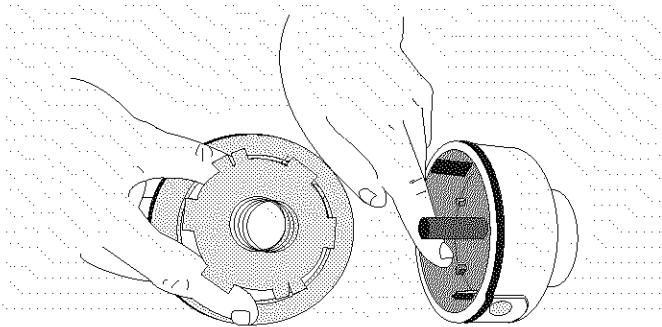

Fig. 22
- Check the indexing teeth on the reel and reel housing for wear. If necessary, remove any burrs or replace the reel or reel housing (Fig. 22).